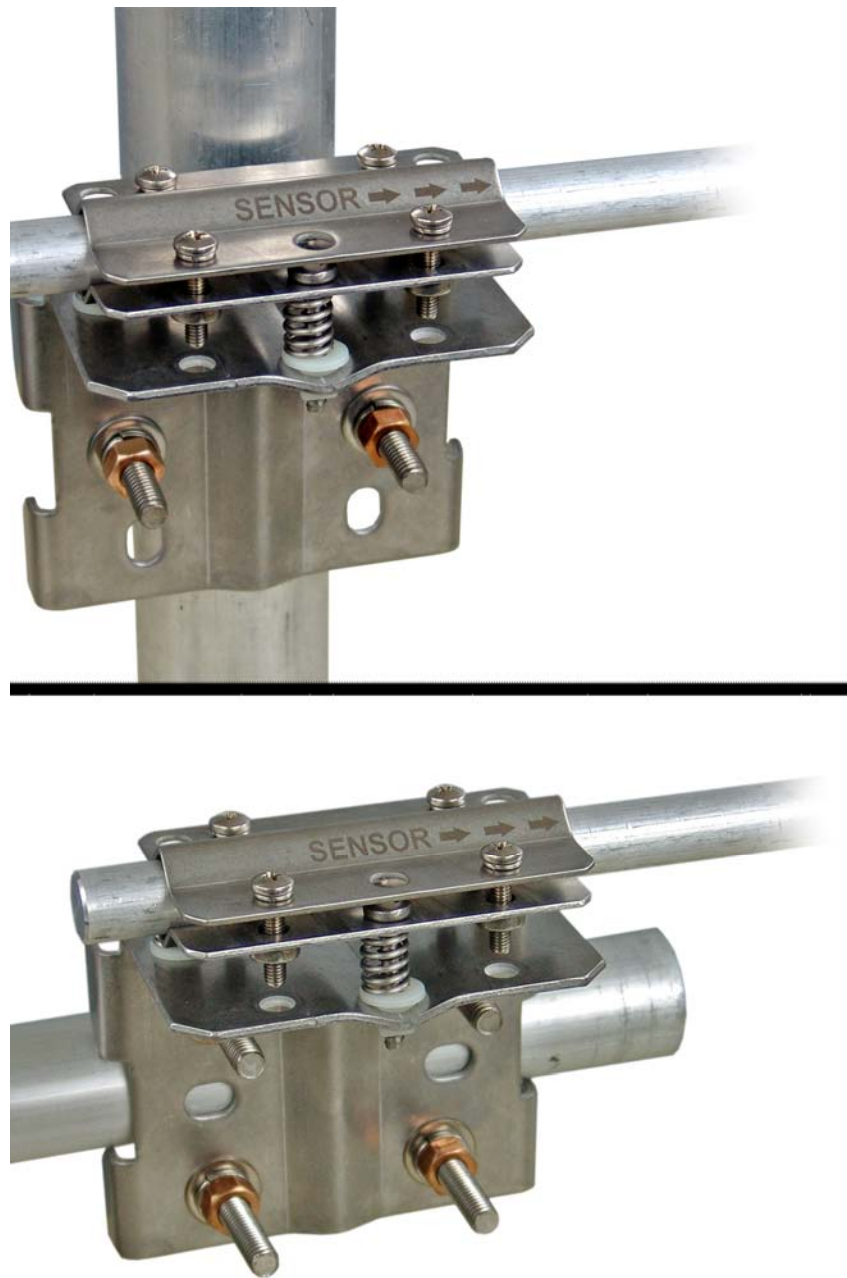

FIGURE 3-2. The CNR2 mounted to a pole (top) and crossarm (bottom) via the 26120 Mounting Bracket Kit.
2. Attach the 26120 mounting bracket to the pole or crossarm, using the kit's U-bolts (see Figure 3-2).
3. Insert the 26127 mounting rod into the mounting block of the 26120 mounting bracket kit. Make sure the sensor points in the direction of the arrows that appear after the word "SENSOR" on top of the bracket (see Figure 3-2). Perform a coarse leveling of the sensor using the bubble level on the top of the CNR2, and tighten the four screws on top of the mounting bracket to properly secure the mounting rod so that it does not rotate.